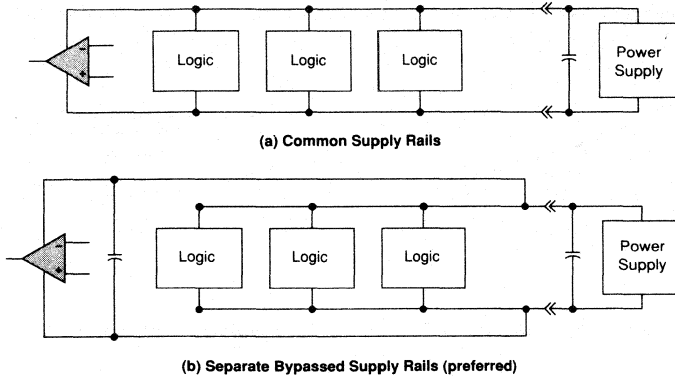

FIGURE 105. COMMON VERSUS SEPARATE SUPPLY RAILS
1. Power the linear devices from separate bypassed supply lines (see Figure 105); otherwise the linear device supply rails can fluctuate due to voltage drops caused by high switching currents in the digital logic.